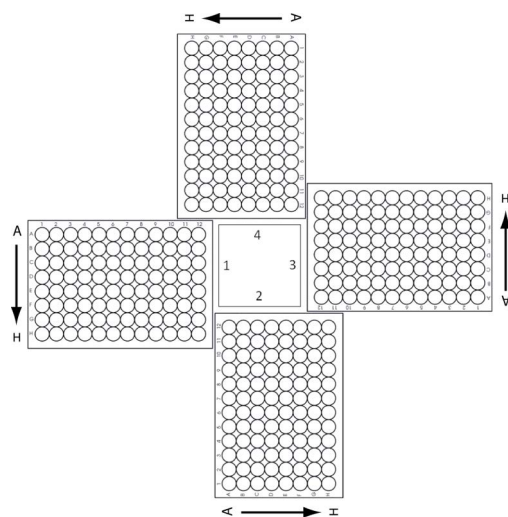

Figure 4 Agilent Labware MiniHub plate orientation.
- 1 Using the plate orientations shown in Figure 4, load the Labware MiniHub according to Table 22.